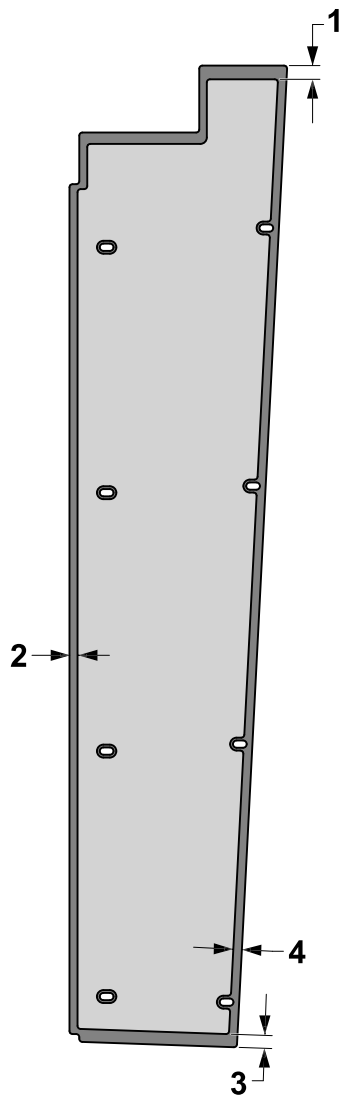

Figure 27
- 3. Remove the backing film and assemble the sound-dampening panels and the outer-pillar pads to the rear-pillar covers as shown in Figure 26 and Figure 27.
Figure 27 shows the proper dimensions for installing the outer-pillar pads and sound-dampening panels to the rear-pillar covers.